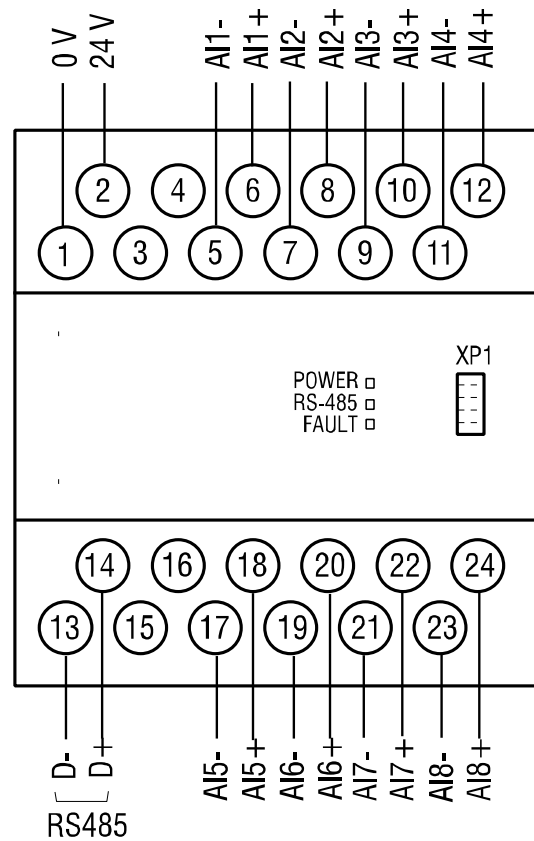

Fig. 4.1 Electrical connections
Under the cover on the front panel of the module there is a 10-pole pin strip XP1 with the jumper JP1 (see Figure 4.1, 7.3) for factory settings restoration (see 7).
- Terminal connections are shown in Fig. 4.1, terminal assignments are given in Table 4.1.